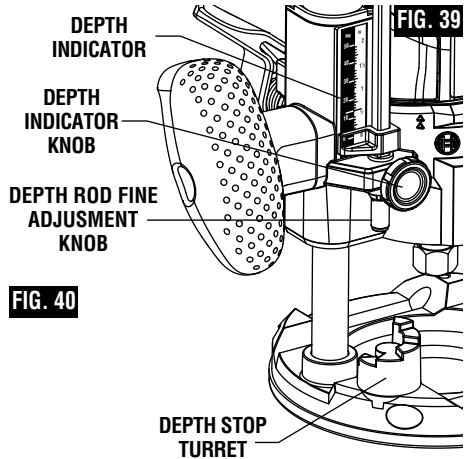

FIG. 40
2. Rotate depth stop turret until the lowest step is aligned with the depth rod. Loosen depth indicator knob and lower the depth rod until it contacts the lowest step of the turret. Slide the depth indicator until the red line indicates zero on the depth scale, indicating the point at which the bit just contacts the work (Fig. 40).